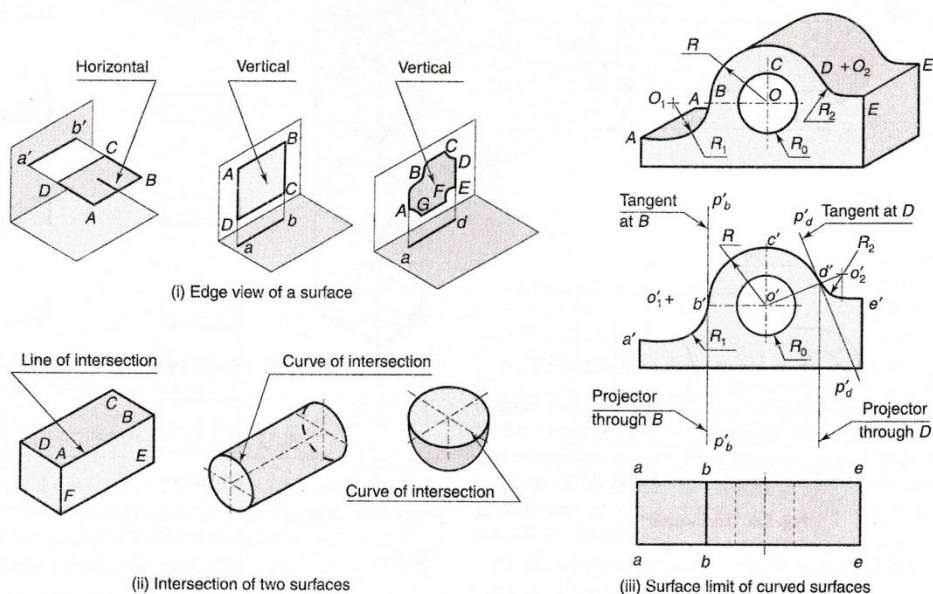

Fig. 5.9 Representation of a line
**1. Edge view of a surface** If a plane surface is perpendicular to one of the reference planes, its projection on that reference plane, is represented by a line. Refer Fig. 5.9 (i) If a surface  $ABCD$  is perpendicular to V.P. and parallel to H.P. its projection on V.P. is represented by a line  $a'b'$ . Here, the line  $a'b'$  is representing
surfaces may be plane, curved or spherical in shape. Refer Fig. 5.9 (ii) If a plane surface  $ABCD$  is intersecting with another plane  $ABEF$ , a straight line  $AB$  is formed. If a curved surface (say, surface of cylinder) is intersecting with a plane surface, the line of intersection is a curved line (here, a circle). If a spherical surface (say, surface of a sphere) is intersecting with a plane surface, the line of intersection is a curved line (here a circle). A spherical surface can intersect with a curved surface to form another curved line and so on.
**3. Surface limit of surfaces** Surface limit is the boundary of a surface. Surface limits of a plane surface  $ABCD$  can be represented by the outer edges  $AB$ ,  $BC$ ,  $CD$  and  $DA$ . Surface limit of a circular plane is a circle and so on. Solids have more number of surfaces and surface limit represents change of direction of the surfaces. Identifying the surface limit of curved surfaces is shown in Fig. 5.9 (iii). Here, the reversal of the direction of the curved surface indicates the surface limit.